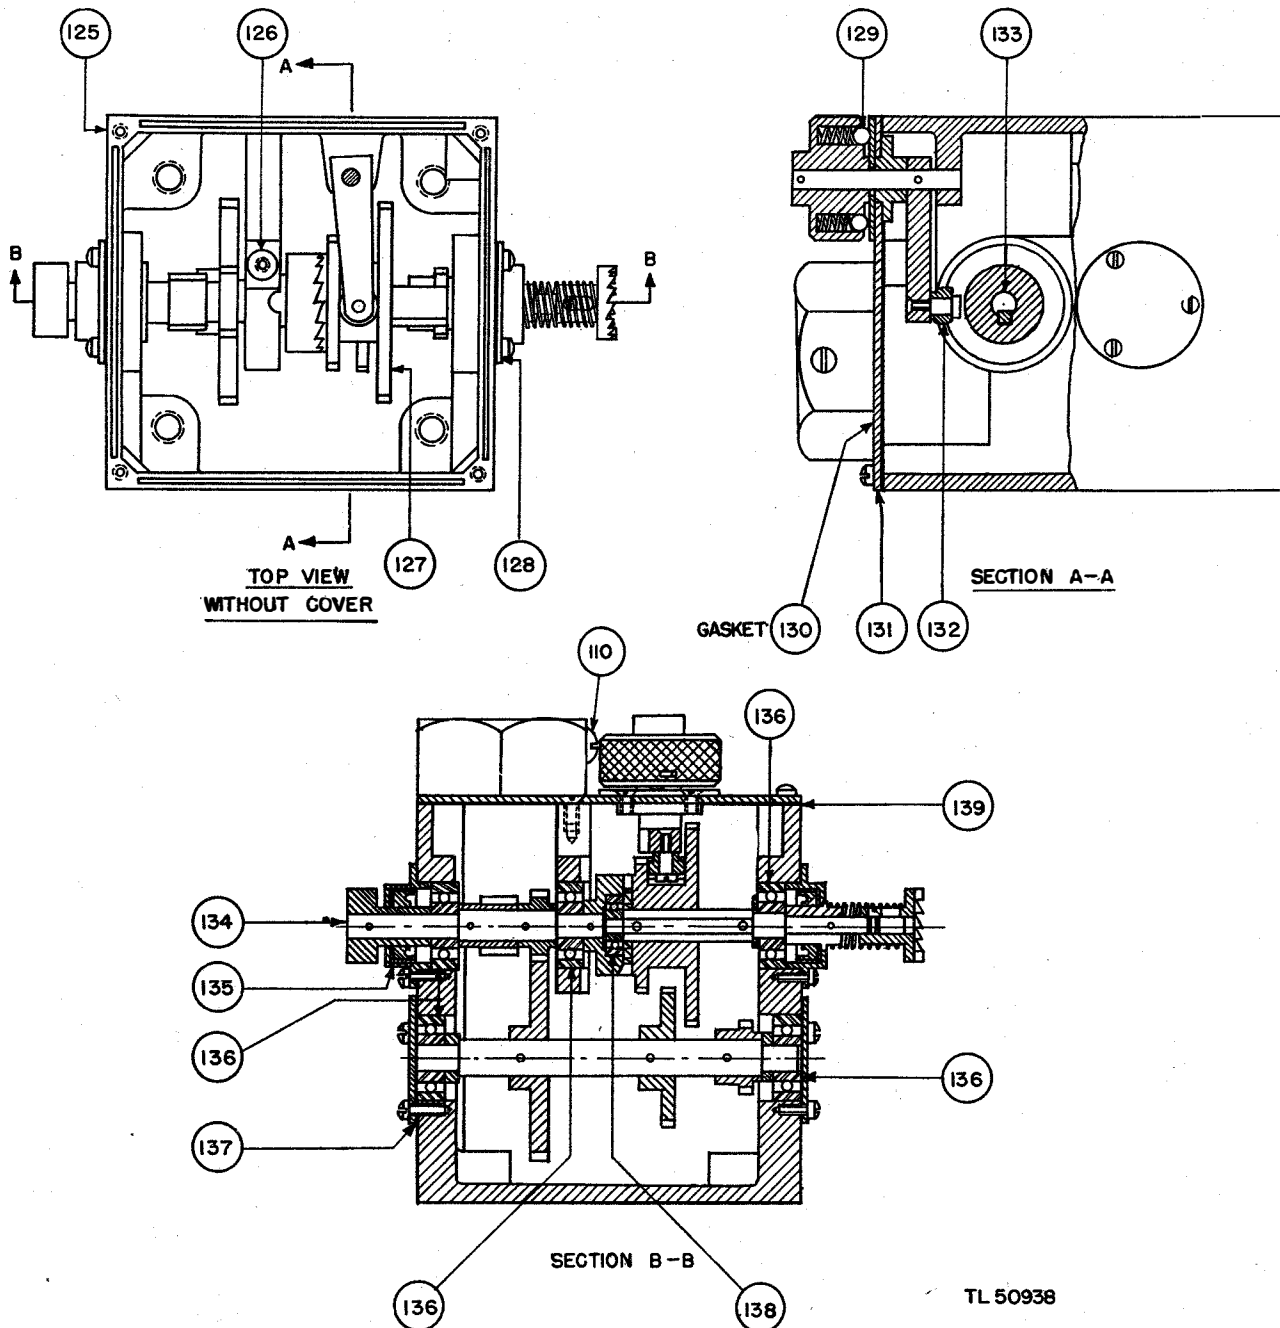

Figure 41. Gear box assembly of keying head drive.
a. **Gear Box.** After every 6 months of continuous operation, clean the gear box and refill it with 6 ounces of Oil, Engine, SAE 50, U. S. Army Specification 2-104B. To do so, loosen screw 110 (fig. 41) and remove the transmitting speed indicator (142). Turn the keying head drive upside down and drain thoroughly. Rinse with gasoline or similar cleaner and let the gear box dry before filling it with new oil. If oil leaks occur, make the necessary repairs immediately and check the amount of oil remaining in the gear box. Refill if necessary, as explained above. When replacing the cover, be sure that the roller (132) rests in the groove of the transmission coupling gear (127).
b. **Motor.** Grease the motor bearings (145) after every 250 hours of continuous operation by inserting a light grease through the two *alemite* fittings (144) provided for this purpose. Either of two greases may be used: Grease, Lubricating, Special, Specification AXS-